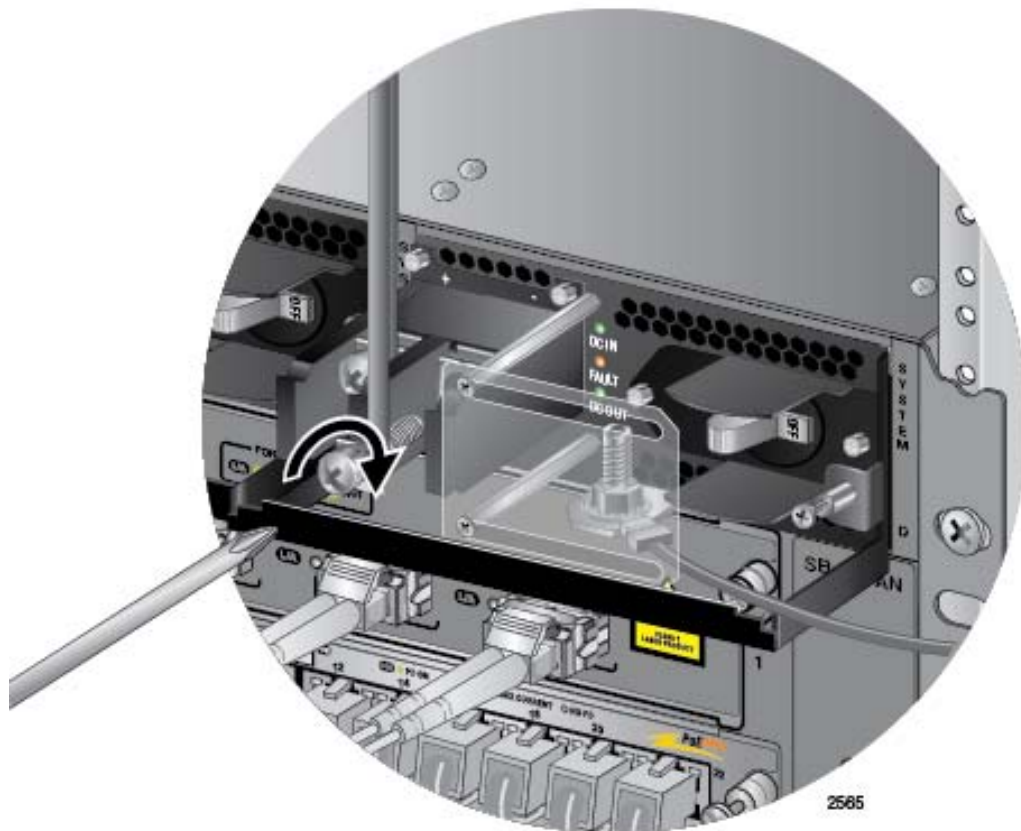

Figure 141. Connecting the Negative Lead Wire
5. Wrap the negative lead wire clockwise around the remaining terminal screw and secure the screw and wire to the negative terminal connection on the terminal block with a #3 Phillips-head screwdriver, as shown in Figure 141 on page 182. The negative terminal is on the right.